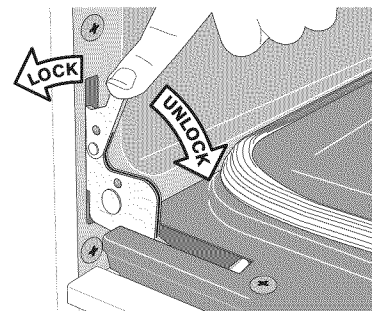

Figure 23: Door hinge locks
2. Pull the door hinge locks on both left and right door hinges down from the oven frame completely towards the oven door (Figure 23). A tool such as a small flat-blade screwdriver may be required.
4. Push the door hinge locks up towards and into the oven frame on both left and right oven door hinges to the locked position (Figure 23).